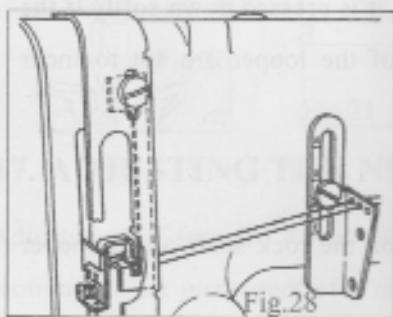

Fig.28
24. THE POSITION OF THE THREAD-AMOUNT ADJUSTING PLATE OF THE THREAD TAKE-UP LEVER(Fig.28)